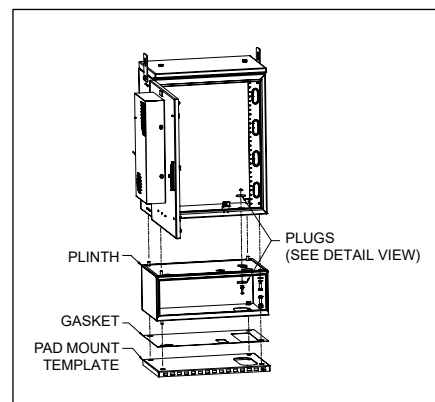

Figure 7
4. Install the gasket by positioning it on the pad so that it is underneath the bottom of the CUBE when the cabinet is installed. Line up the gasket so that the cutouts are in proper position around the conduit opening and over the anchor bolts as shown in Figure 7.
7. Insert the four 1/2" hex head screws (provided with kit 97-002002-A) upward thru the top of the plinth into the equipment chamber as shown in Figure 7.